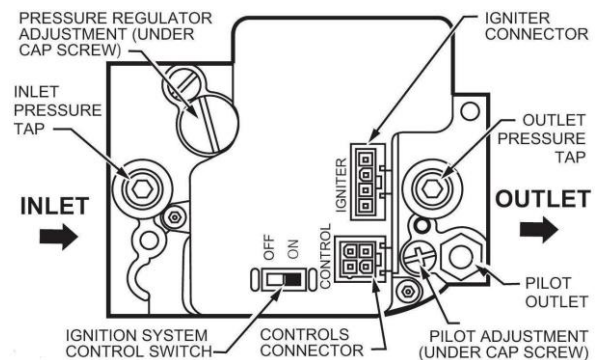

Figure 3
NOTE: Leave the SmartValve™ switch in the ON position, **Figure 3**. Turn off gas supply at the appliance shut-off valve.
3. Disconnect the appliance wiring (Figure 3, CONTROLS CONNECTOR) from the SmartValve™.